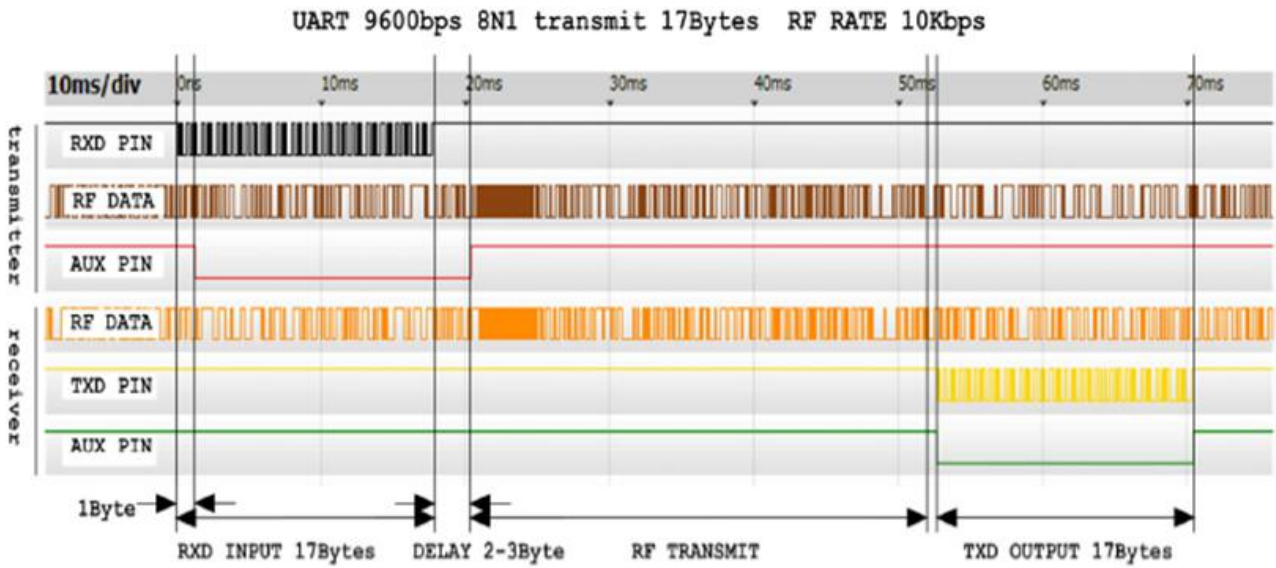

Figure 2 Timing diagram of normal mode (17 Bytes transmit)
B) Receive: The serial port is opened, and the module is in a continuous receiving state. After data received from the current channel, then de-interleaving, and error detection to confirm that the data is correct, set AUX as low and immediately output the data from the serial port. After transmission finished, reset AUX as high. Refer to Figure 2 for the normal mode transmit and receive timing.
Note: During the receiving or transmitting process, even if the module is set to mode 3 or 4, the module must complete the receiving or transmitting process before entering the power saving mode or sleep mode. Using this feature, when the module is in mode 3 or module 4, we can set the SET\_A pin low to wake up the module and input data through RXD. After the module receives the first byte, it immediately sets AUX low (see Figure 2) , and then check the level of the SET\_B pin. If it is high, a longer preamble is sent before transmitting data to wake up the receiver of the other party. If it is low, the normal preamble is sent.